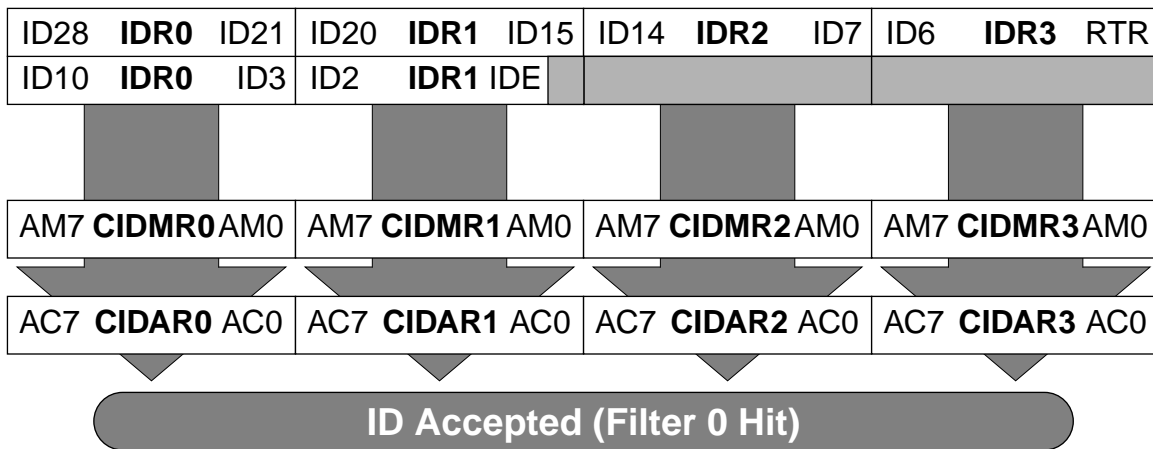

Figure 27 32-bit Maskable Identifier Acceptance Filter
- Two identifier acceptance filters, each to be applied to the full 29 bits of the identifier and to the following bits of the CAN frame: RTR, IDE, SRR. This mode implements a two filters for a full length CAN 2.0B compliant extended identifier. **Figure 27** shows how the first 32-bit filter bank (CIDAR0-3, CIDMR0-3) produces a filter 0 hit. Similarly, the second filter bank (CIDAR4-7, CIDMR4-7) produces a filter 1 hit.